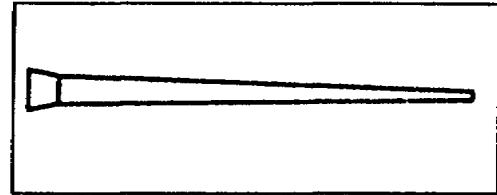

Figure 1-29. Cut nail
(2) Cut Nails. Cut nails are wedge-shaped with a head on the large end (Figure 1-29). They are often used to nail flooring because they have good holding power and are made of very hard steel.